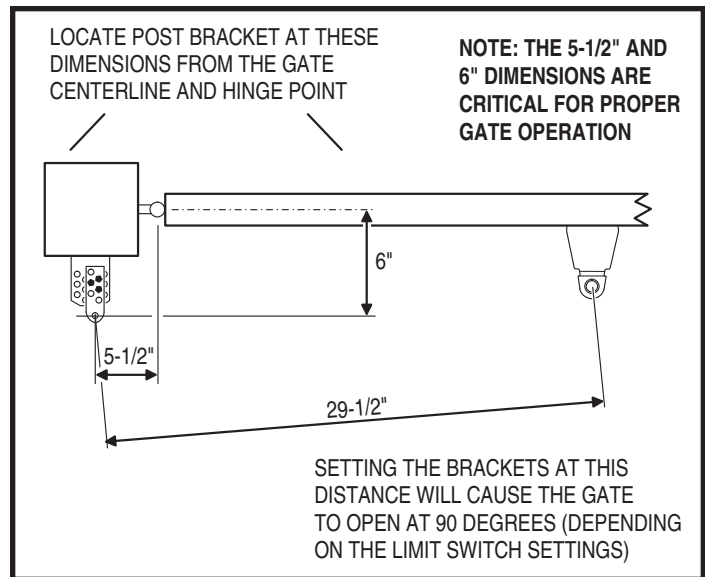

Figure 2. Required Bracket Locations
Examine Figure 2 for details on the required mounting locations for the brackets. They must be mounted at the correct locations to allow the operator to open the gate at a 90 degree angle and to ensure the operator functions smoothly.
2. Using Figure 2 as a guide, mark the locations on the post or pillar and the gate for the mounting brackets. The top surface of the post bracket must be  $3/8$ " below the top surface of the gate bracket to allow for the bolt-on operator bracket's  $3/8$ " thickness.